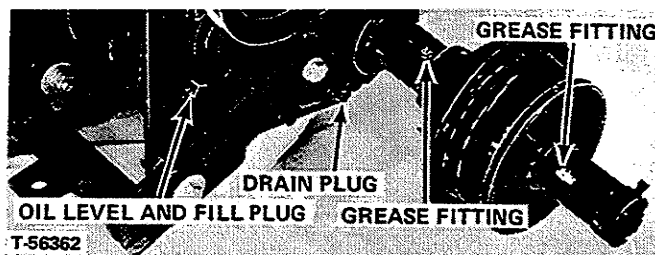

FIGURE 14
1. Transmission oil shall be maintained up to the bottom of the oil level and fill plug (Figure 14). Fill with Allis-Chalmers Gear Lube 715 or good quality SAE 90 transmission oil.
If it should become necessary to drain transmission use the drain plug at lower side of housing, (Figure 14).
2. Every 25 hours lubricate two grease fittings on right hand rear axle (See Figure 14), with good grade automotive pressure gun grease.
1. Transmission oil level shall be maintained up to the bottom of the oil level and fill plug (Figure 14). Fill with Allis-Chalmers gear lube 715 or good quality SAE 90 transmission oil.